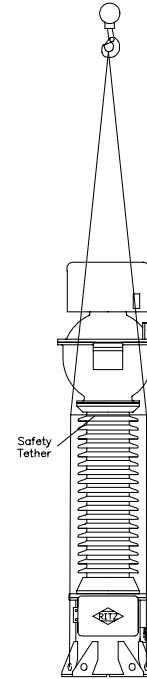

FIG 3
Special care should be taken to ensure stability during the lifting and movement. Refer to the crate marking for the center of gravity. Once the transformer is in the vertical position, it should be moved and mounted according to FIG. 3. Be careful not to tilt the unit such that the center of gravity moves beyond any of the four (4) matched slings. Use a safety tether. Remove the transport rail from the feet. Refer to the nameplate for weight. For storage over one (1) year, it is recommended that the transformer be stored in the upright position. If stored horizontally over this period of time the unit should stand up 24 hours before energizing. If stored horizontally, the transport plate must be on the upper side.